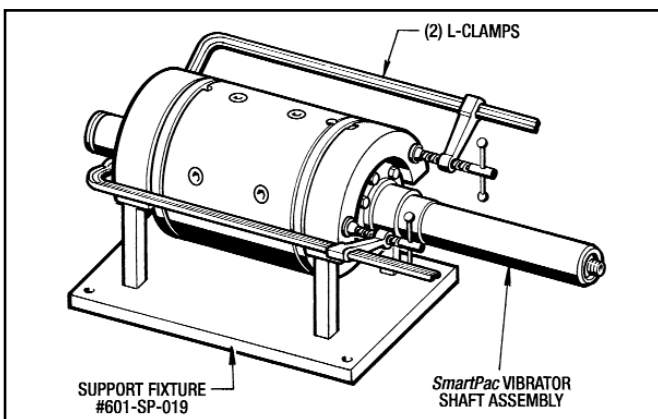

Figure 7.13 - Support Fixture #601-SP-019 & L-Clamps
and Rear Hubs are resting on the (4) key stock upright members of the fixture. (See *Figure 7.13*)
12. Compress the entire assembly with the (2) L-Clamps so that both hubs are seated solidly into the Sleeve (#17) as shown in *Figure 7.13*.
10. With soft slings and an overhead hoist lift the whole assembly up and over to the **Support Fixture #601-SP-019**. Set it down so the flat surfaces of the Front and Rear Hubs are resting on the (4) key stock upright members of the fixture. (See *Figure 7.13*)
11. Compress the entire assembly with the (2) L-Clamps so that both hubs are seated solidly into the Sleeve (#17) as shown in *Figure 7.13*.